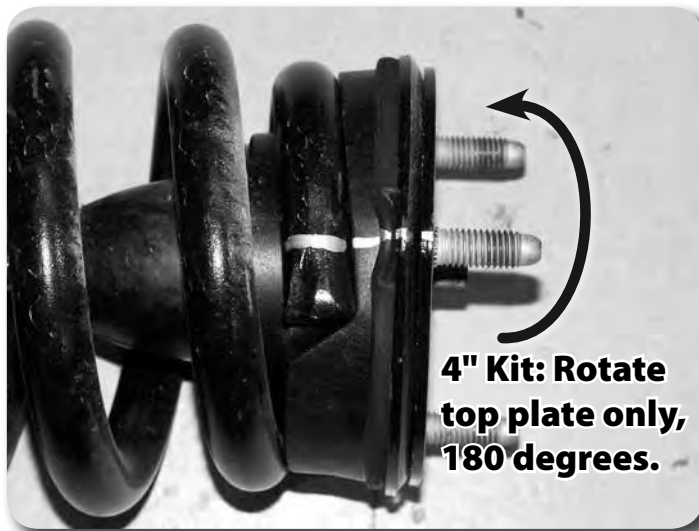

Figure 20
49. **4 inch kits only:** The upper strut mounting plate must be rotated 180 degrees. Make an indexing mark on the coil at the top winding by the stud that faced 'out' on the vehicle. Place the coil in a strut compressor and rotate the top 180 degrees. The stud will still face out on the vehicle when reinstalled. This step rotates the buldge in the coil to give enough clearance. This step is not necessary for the 6 inch kits. **Figure 20**